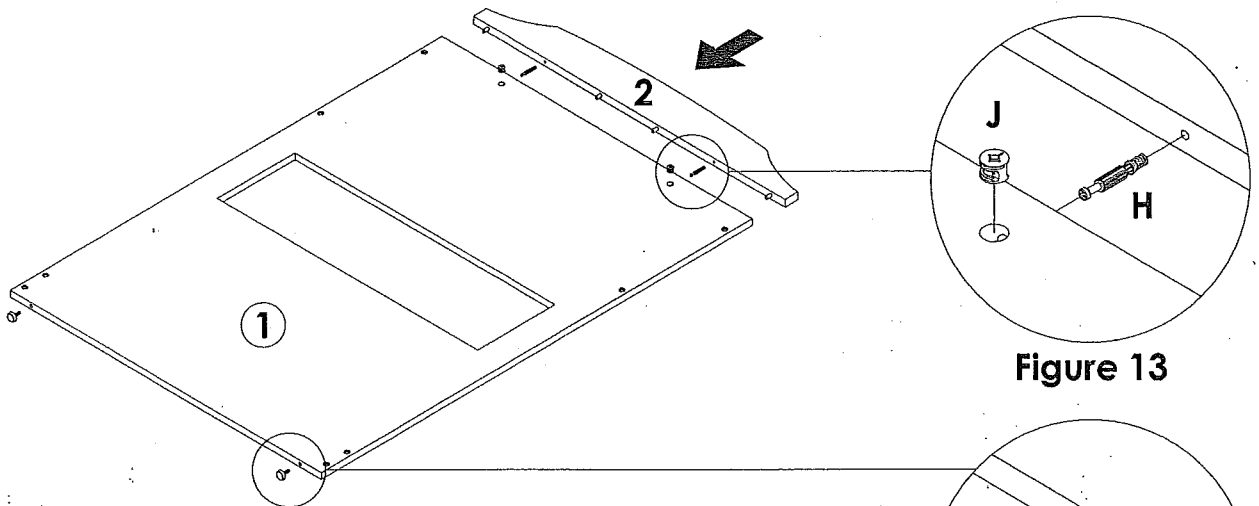

Figure 13
1. Attach and secure **Headboard Top Rail** onto **Headboard Panel** by using **Connecting Bolts (H)** and **Minifix (J)** as shown in **Figure 13**, tighten it up by using a Crosshead Screw Driver.